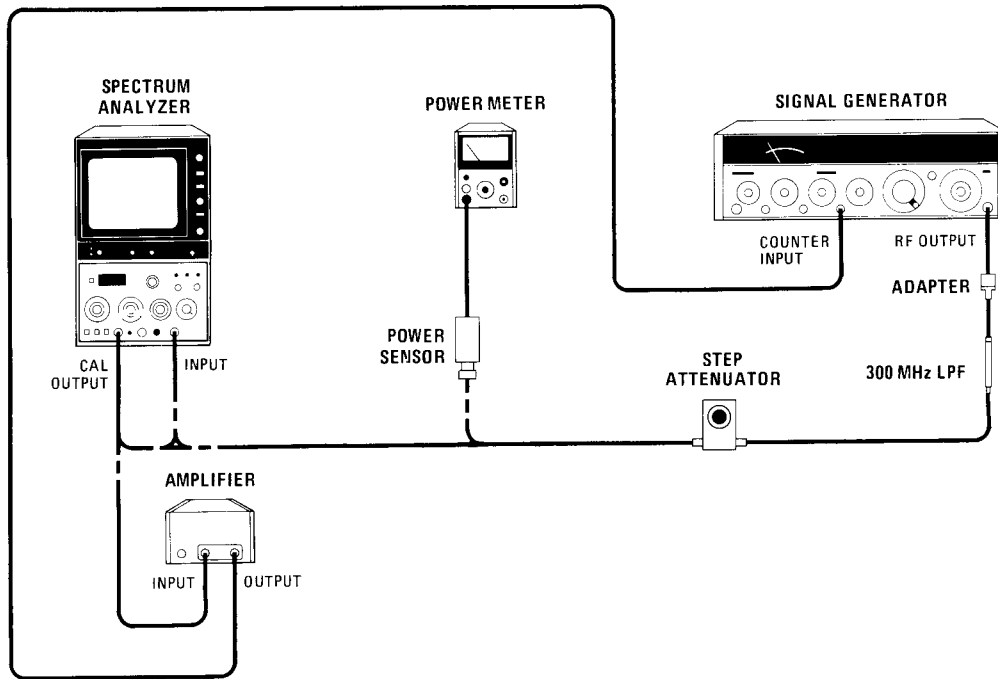

Figure 4-22. Calibrator Accuracy Test Setup
2. Connect CAL OUTPUT to HP 8640B COUNTER INPUT through amplifier, as shown in Figure 4-22. Frequency counter should indicate 250 MHz  $\pm$  50 kHz. (If frequency counter indicates 500 MHz, insert 300 MHz LPF between spectrum analyzer CAL OUTPUT and amplifier INPUT.)
4. Set the step attenuator to 10 dB and connect the power sensor and power meter to the attenuator as shown in Figure 4-22.